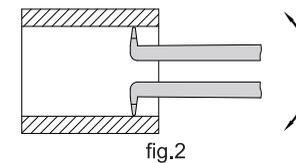
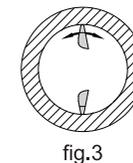

fig.2
fig.3
4. How to use: press the operating lever to make distance between two measuring tips smaller than the bore to be measured. Input the caliper gage into the bore, release operating lever to make two measuring tips well contacted with the bore, slightly swing the gage along axial and radial of the bore, to find the axial minimum (fig.2) and radial maximum (fig.3), get the result from the caliper gage. When measuring the width, please find the minimum value and get the result.